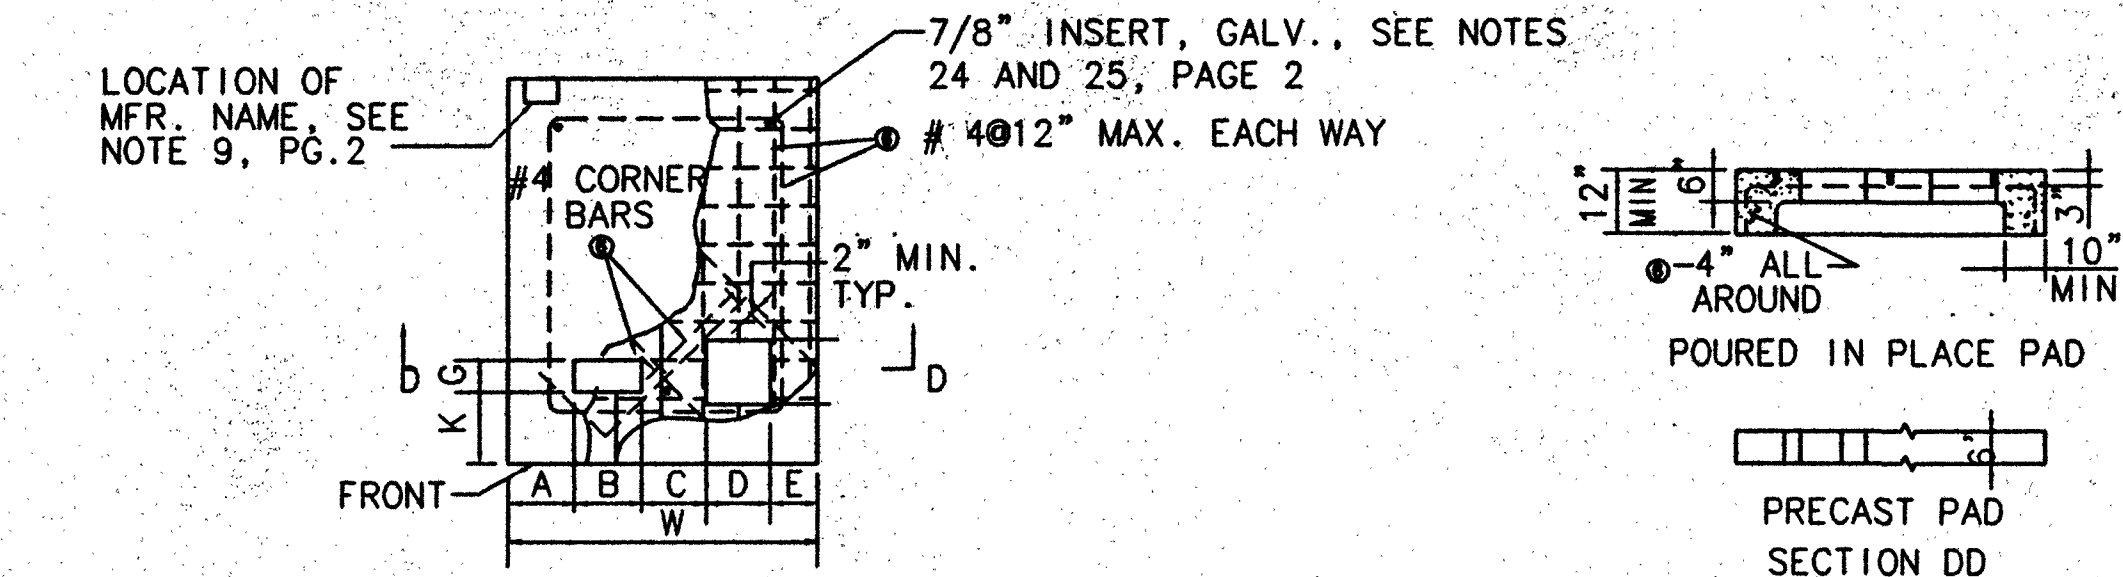

FIGURE 4
8. PRECAST PADS SHALL BE PERMANENTLY IDENTIFIED WITH MANUFACTURER'S NAME (FOR LOCATION SEE FIGURE # AND FIGURE 4) AND HAVE THE WEIGHT STENCILED ON TOP OF THE PAD.